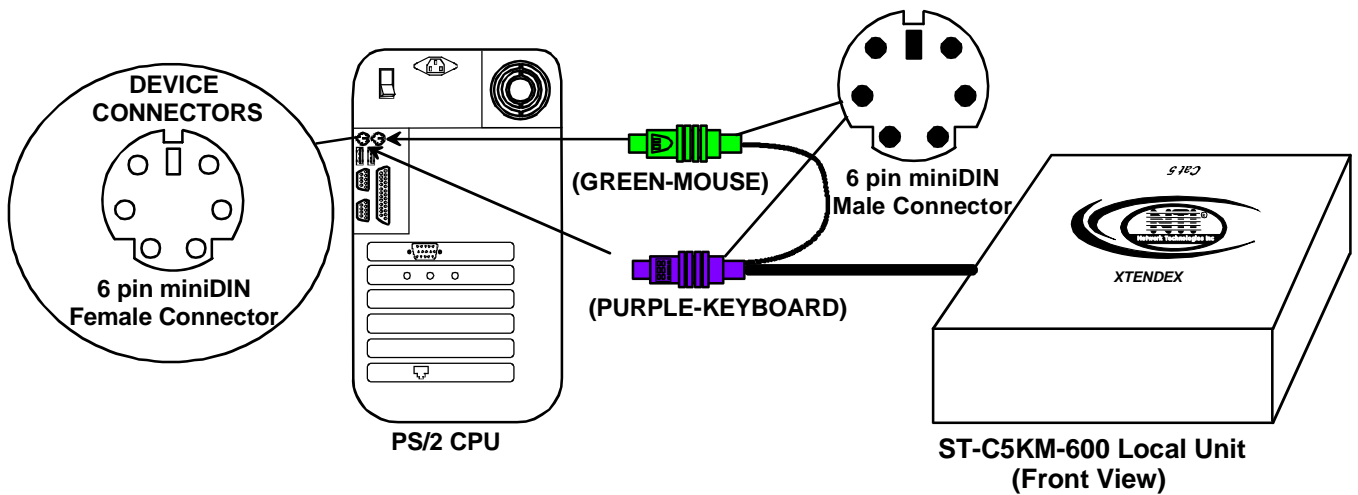

Figure 5- Connect Local Unit with only keyboard and mouse support
1. Plug the cables of the Local Unit into the back of the CPU. (See Figure 5)